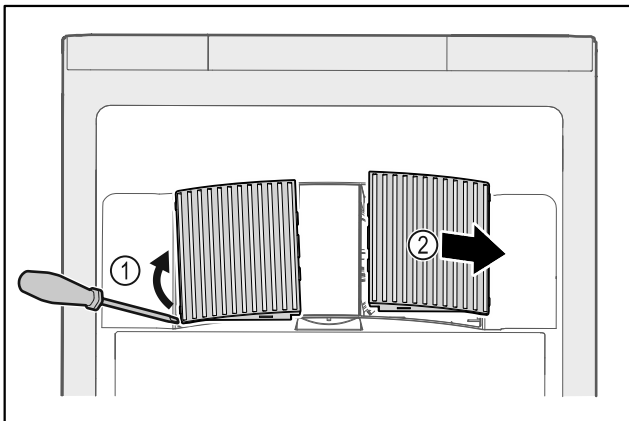

Fig. 137
- ▶ Carefully lever out fan covers from the side Fig. 137 (1) and remove towards the front Fig. 137 (2).